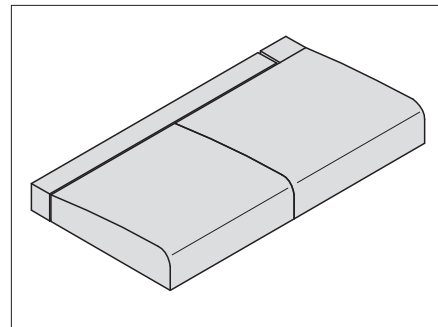
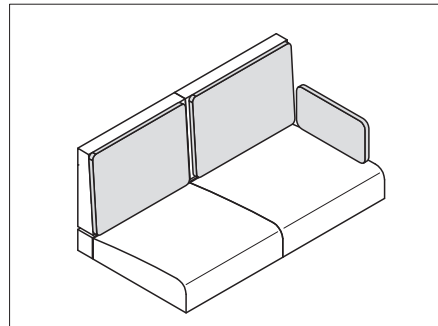

Fig. 205 Positioning seat cushions
Fig. 207 Cushion for back cushions
- Lay on the seat, backrest and additional cushions as shown in Fig. 205 to Fig. 207.